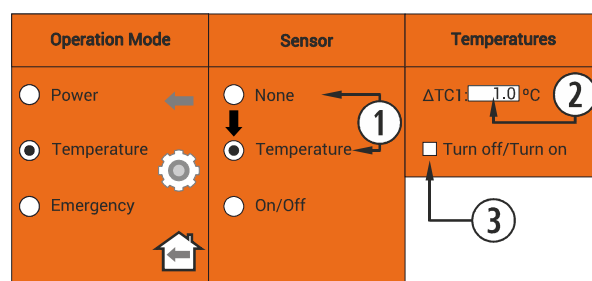

Figure 11
①	The user turns on the stove manually.
②	Target temperature selected in the main menu.
③	$\Delta TC1$ by default 1°C (See Figure 11).
④	It changes to level 1 (minimum).
⑤	It changes to working level 9.
⑥	The user turns off the stove manually.
③	ΔTC_1 by default 1°C (See Figure 11).
⑥	ΔTC_{OFF} Temperature difference for turning the device off.
⑦	Turning off the stove using the room temperature.
⑧	ΔTC_{ON} Temperature difference for turning the device on.
⑨	Turning on the device following the temperature order.